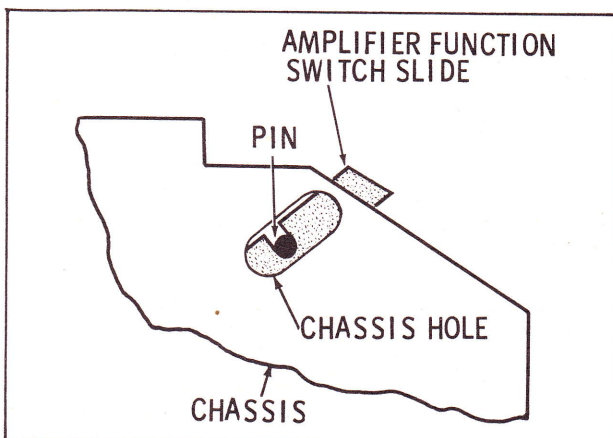

Fig. 10. Amplifier Function Switch (M7) Adjustment
3. Loosen set screw (85, Fig. 15) and turn actuating arm (83, Fig. 15) on function shaft (52, Fig. 15) so that roll pin (84) is positioned in the amplifier function switch slide as shown in Fig. 10. Tighten set screw (85) on actuating arm.